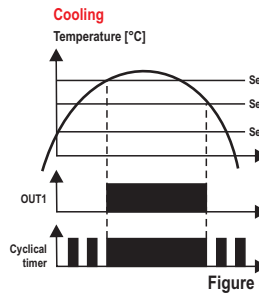

Figure 3
- **Cyclical timer output is on whenever stage 1 output is on (F22=4)**: in this operating mode timer cycles according to the times configured in F20 (**ON**) and F21 (**OFF**) and **stage 3** stops cycling and keeps the output switched on, whenever **stage 1** output switches on, as shown in Figure 3.